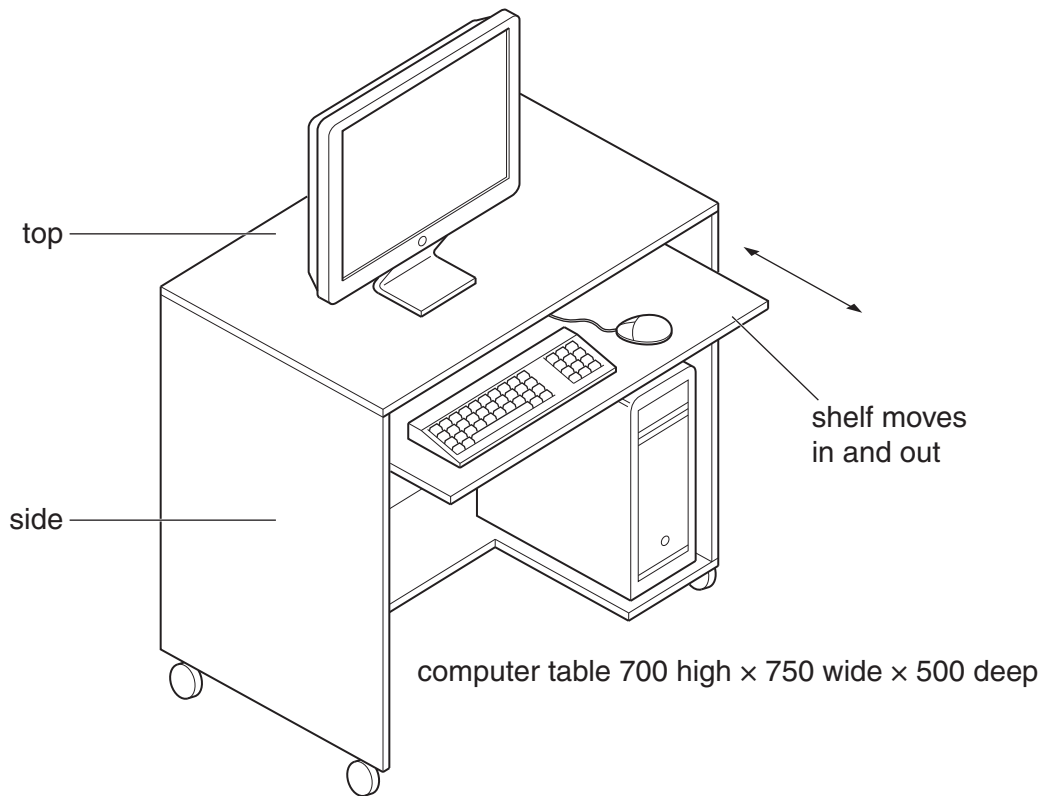

Fig. 4
- 3 Fig. 4 shows a computer table made from 25 mm thick manufactured board. The computer table is supplied as flat-pack for self-assembly.
(b) Use sketches and notes to show how the shelf, used to support the keyboard, could be made to slide in and out as shown in Fig. 4.